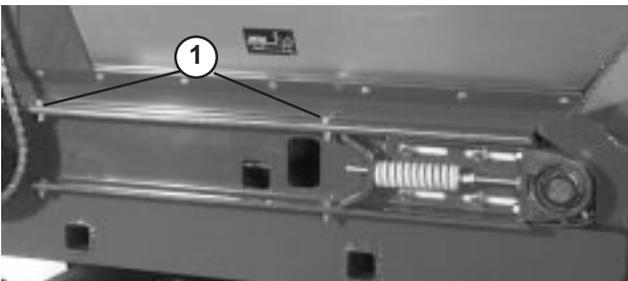

Figure 27
- Remove (2) capscrews, washers and nut, on each side of machine, securing hopper to slider bed (Fig. 27).